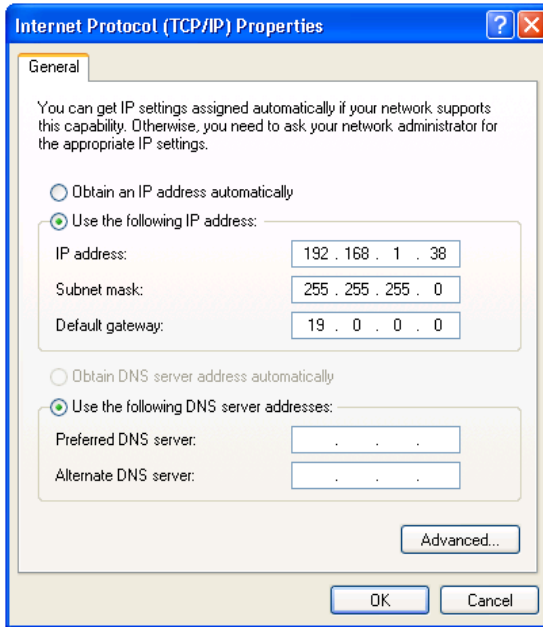

Figure 9: Internet Protocol (TCP/IP) Properties Window
6. Select **Use the following IP Address** and enter the details as shown in Figure 9.